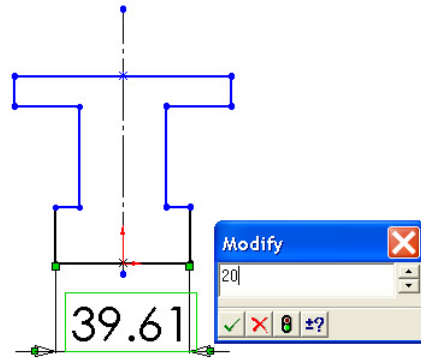

Figure 9 Editing dimension.
12. Change the dimension to **20 mm**. (Figure 9).